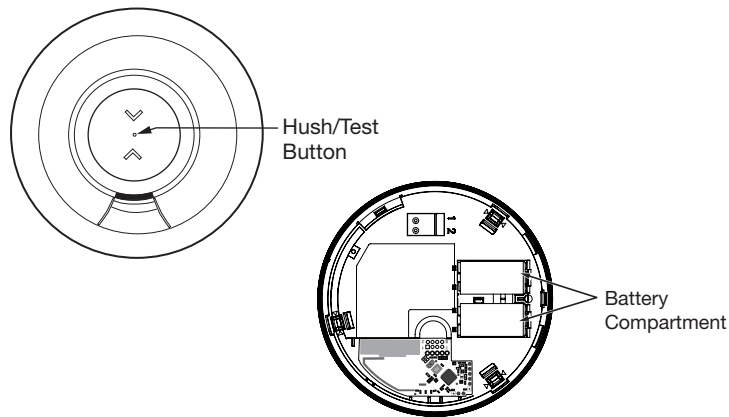

Figure 1. Wireless Smoke Heat Detector
1. The test button is located on the Detector housing (see **Figure 1**).
2. Push and hold the test button until the Detector sounds and the red LED flashes (see **Figure 1**). The Detector will stop sounding shortly after the button is released. The alarm panel will trigger and into alarm. The sounder begins the temporal 3 pattern and the red LED blinks. The alarm panel's console should display the Detector's name in alarm.